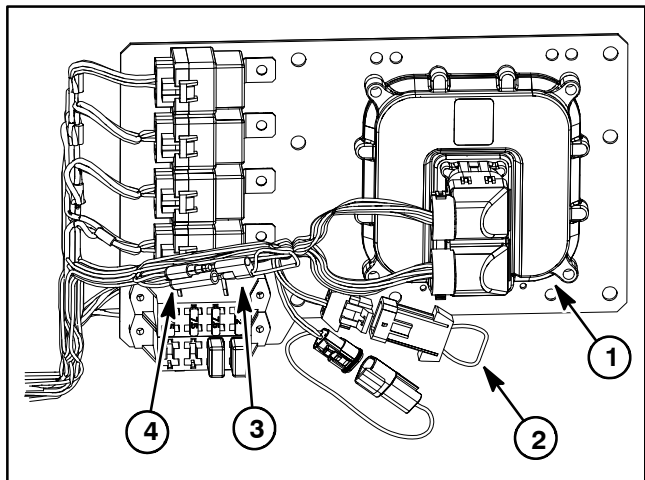

Figure 9
- The loopback connector (6 pin connector) is not connected to the machine wire harness (Fig. 9). The loopback connector is near the TEC controller on the mounting plate under the dash panel.
2. Locate diagnostic tether cap that connects the two (2) diagnostic shunt wires located near the TEC controller on the mounting plate under the dash panel (Fig. 9).
3. Remove diagnostic tether cap from diagnostic shunt wires and connect the two (2) shunt wires together.